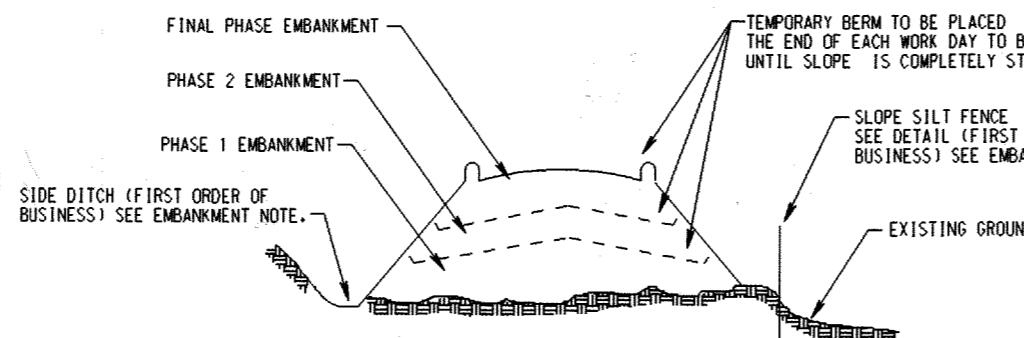

Figure 5. Incremental Stabilization - Fill
- 1. Select one or more of the species or mixtures listed in Table 25 for the appropriate Plant Hardiness Zone (from Figure 5) and enter them in the Temporary Seeding Summary below, along with application rates and seeding dates.
- 1. Select one or more of the species or mixtures listed in Table 25 for the appropriate Plant Hardiness Zone (from Figure 5) and enter them in the Permanent Seeding Summary below, along with application rates and seeding dates.
4. Construction sequence: Refer to Figure 5 (below).